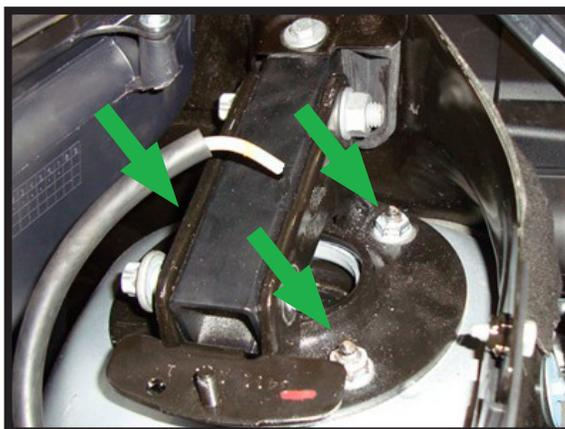

FIGURE 6
8. REMOVE THE THREE (3) UPPER MOUNT FLANGE NUTS. (FIGURE 6)